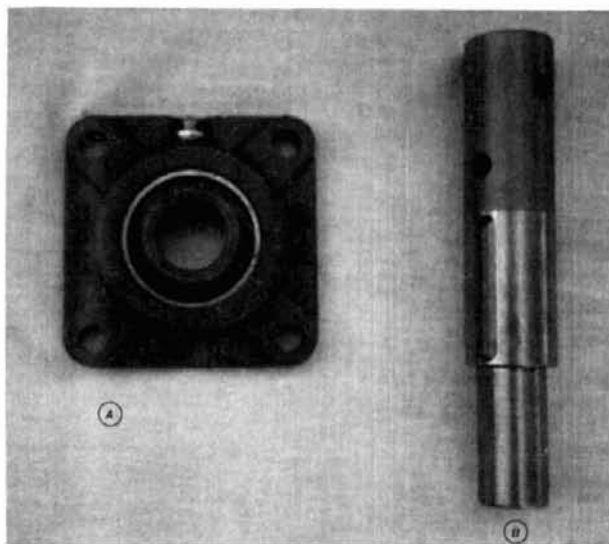
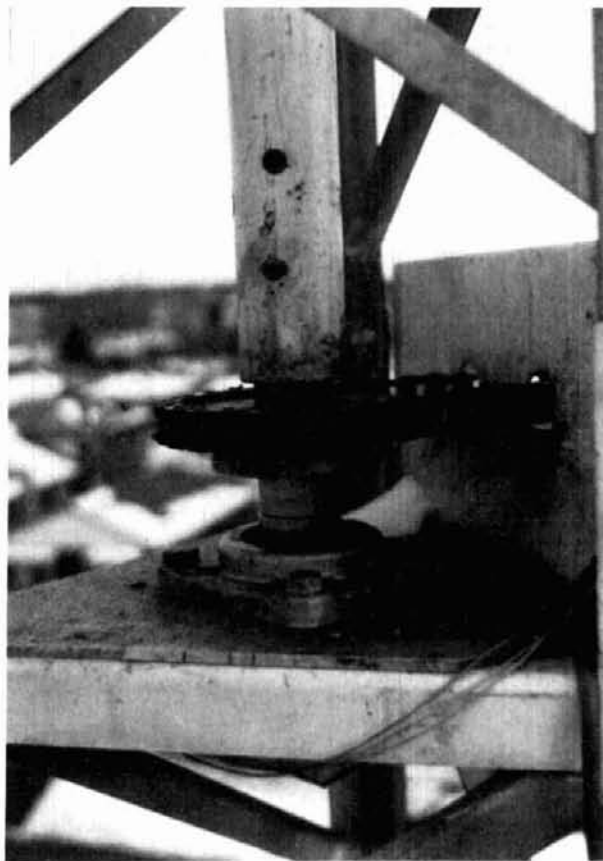

fig. 2. (A) Flanged cartridge is a high-quality ball-bearing unit set in a horizontal mounting flange. (B) Hollow steel pin secures mast adapter to the mast.
fig. 3. Completed mast assembly consists of chain drive steel pin and flanged cartridge.
The first change was to use a different oscillator circuit. I couldn't get the author's circuit shown in **fig. 3** (page 12) to oscillate with any 1-MHz crystal that I owned. The circuit shown below has worked with all 1-MHz crystals
The schematic (**fig. 3**) omits one important detail: pins 2, 3, 6, and 7 of U4 and U5 need to be grounded. This is correctly shown in **fig. 4** (page 14), but is easily overlooked when wiring up the circuit from the schematic diagram.
- **Flanged cartridge.** A high-quality, sealed, ball-bearing unit set in a horizontal mounting flange (fig. 2), it can support both thrust and radial loads. The one I used could take about 2000 pounds (907 kg), although it's only a small unit and takes a 1-1/8 inch shaft (2.85 cm). Mounted at the bottom of the mast, it takes the full weight of the antenna array through
the machined adapter shown in figs. 2 and 3. My unit's mounting holes were very close to the standard rotator mounting bolt pattern, so only a bit of
- **Rolled pin (or split dowel).** This is a hollow steel pin with a slot running the length of it. It holds the mast adapter (fig. 2) in the mast, and is driven with a sledge hammer into a hole drilled through mast and adapter. The slot allows it to compress as it's driven in, for a tight fit. There are two good reasons to use a rolled pin or split dowel rather than a bolt: one, there's absolutely no free play — and any free play in a large system is dangerous, because the antennas can slam back and forth, loosening or even shearing hardware — and two, there's no protrusion as long as the correct length is used. I used two 2-inch (5 cm) rolled pins, each measuring 3/8 inch (9.5 mm) in diameter, at right angles. One is visible in the lower hole in fig. 3; the hole above allows ventilation to protect the mast against condensation. The pins are available in various sizes and lengths (check the Yellow Pages under *Fasteners — Industrial*), but are probably not available at your local hardware store.
- **Mast adapter.** This is a straightforward piece of custom-machined steel (fig. 2). The end with the two transverse holes slides into the bottom of your mast and is secured with two rolled pins through mast and adapter. The length of this portion isn't too critical, though it probably shouldn't be shorter